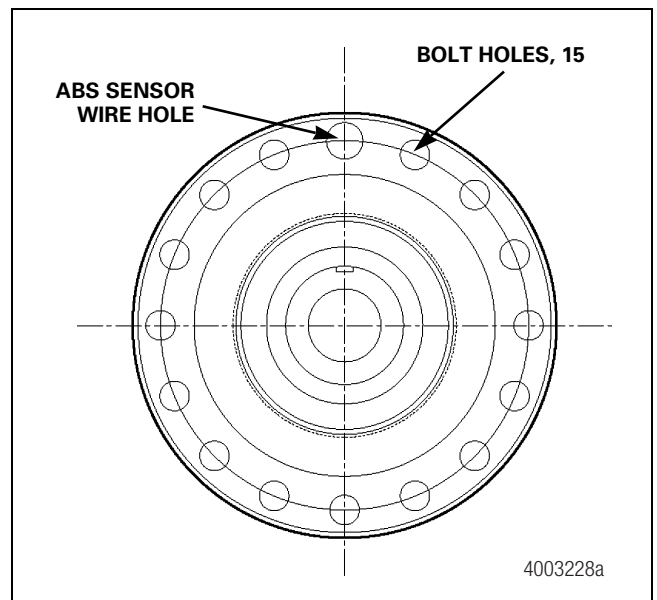

Figure 6.26
- **For a 16-hole flange:** Fasten the brake by installing the correct 5/8-inch (15.875 mm) diameter fasteners through the 15 0.656-inch (17 mm) holes. Tighten the fasteners to 180-230 lb-ft (244-312 N•m). Figure 6.26. 🔧